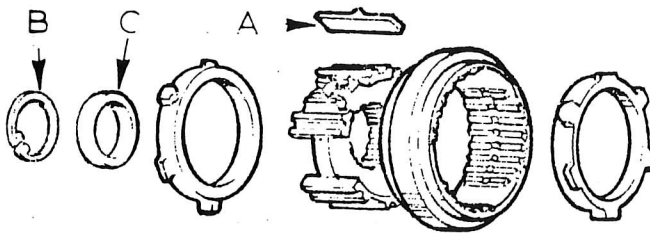

Fig. 23. 3rd./4th. SYNCHRONISER ASSEMBLY
11. Remove the three keys (A, Fig.23) from the hub of 3rd./4th. synchroniser assembly. Remove the circlip (B, Fig.23) locating the hub, and the selective spacer (C, Fig.23). Slide